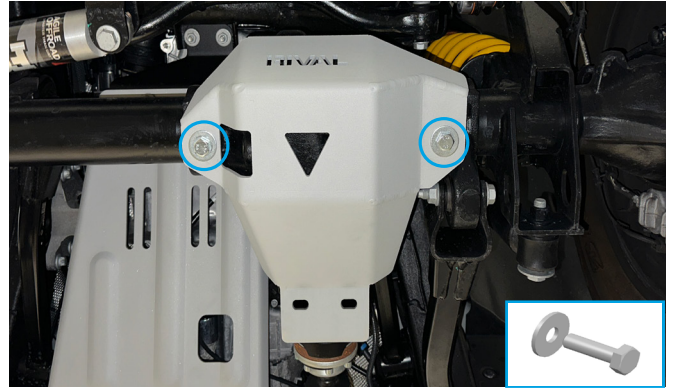

Fig. 2
2. Install the differential skid plate (item 1) and secure the front using M12x30 Hex Bolts and M12 Flat washers (items A, C) as shown in Fig.2. ***Do not tighten yet.**